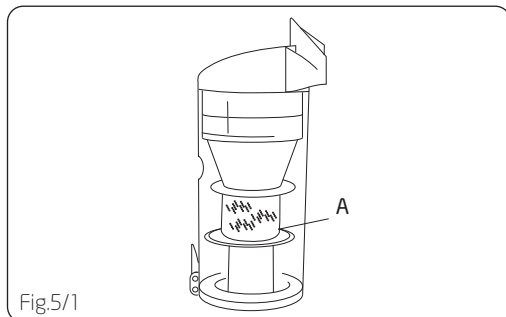

Fig.5/1
Empty the dirt cup before the dirt reaches the fill line (A) (Fig.5/1).